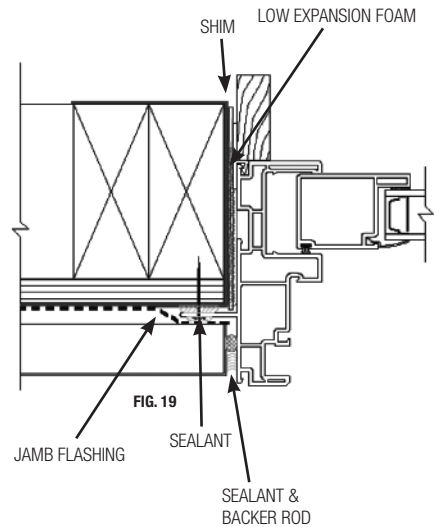

FIG. 19
- C) After siding or wall exterior is complete, apply backer rod and sealant between the door frame and siding material on both sides and sill. Make sure to use 100% neutral cure silicone sealant. (Fig 19)